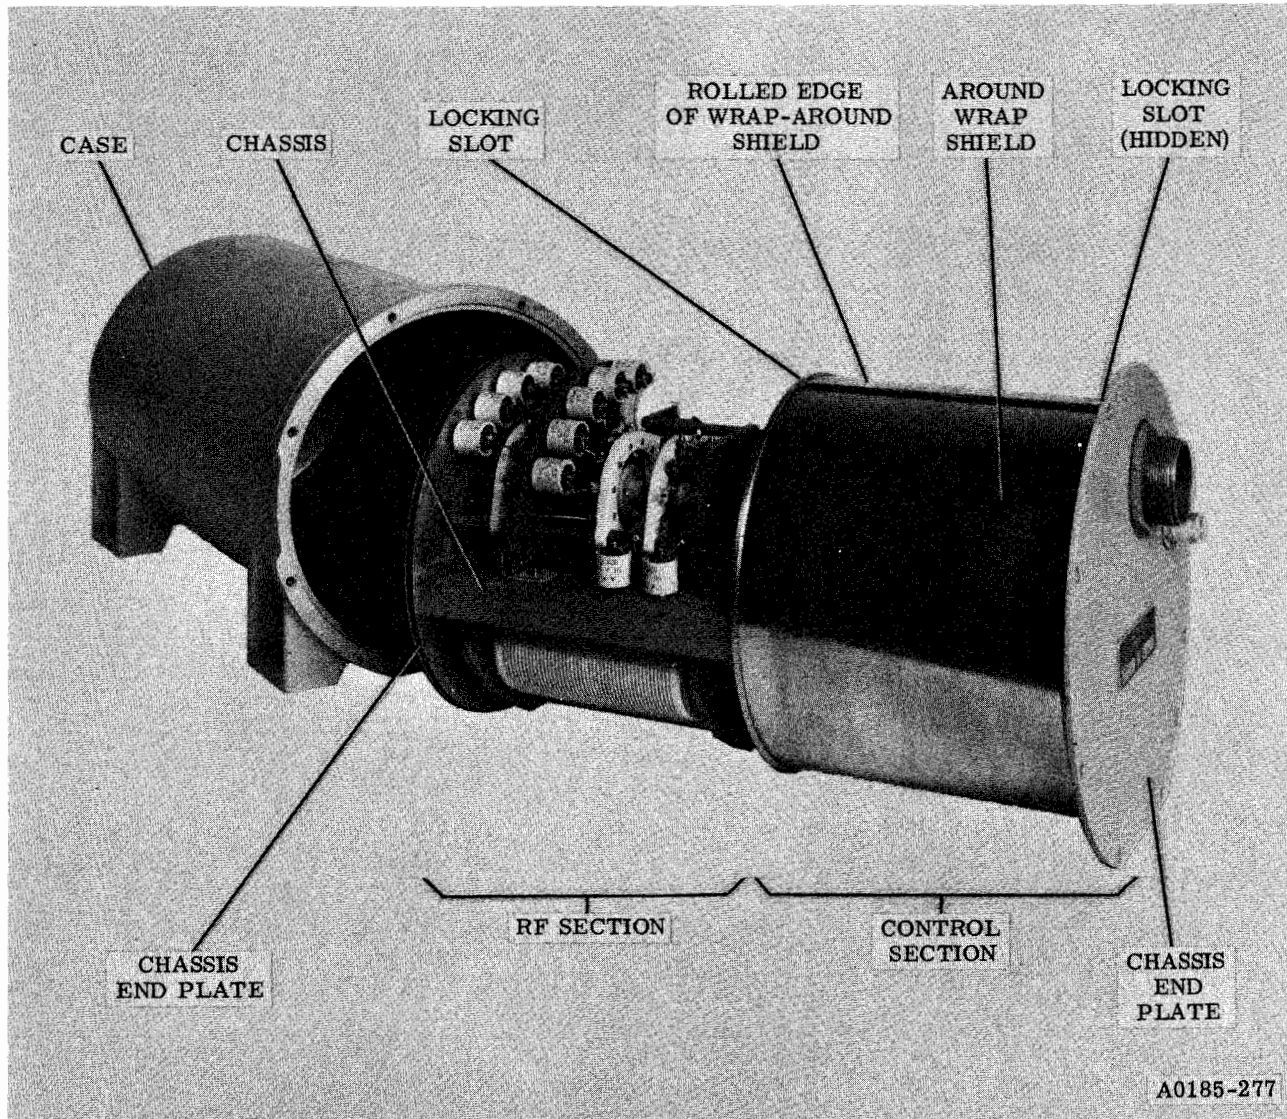

Figure 1-8. Antenna Coupler CU-937/UR, Side View, Case Removed
(1) FUNCTION. - The function of the CU-937/UR is to match the system antenna to the 50-ohm output impedance of the AM-3007/URT.
(2) PHYSICAL CHARACTERISTICS. - The CU-937/UR is housed in a hermetically sealed weatherproof cylindrical case (figure 1-8). The case has four brackets to allow for mounting close to the system antenna, thus minimizing output power loss.
(3) ELECTRICAL CHARACTERISTICS. - The CU-937/UR operates at power levels of up to 100 watts input while maintaining a 50-ohm input impedance at a better than 1.5:1 voltage standing wave ratio (VSWR) over the 2.0- to 30.0-megahertz frequency range. Tuning of the CU-937/UR is accomplished entirely from the AM-3007/URT. The AM-3007/URT generates a tuning code to coarse-tune the CU-937/UR, and final adjustment to bring the VSWR to a minimum is then made using the controls on the front panel of the AM-3007/URT. Forward and reflected power is indicated by the RF OUTPUT meter on the AM-3007/URT front panel.